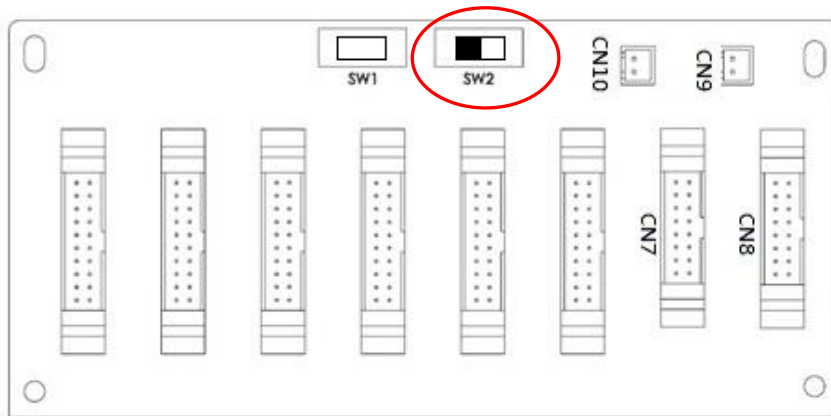

Figure 9-3 Rack 2 SW2 set to the left side
1. The parallel board(s) of the Rack 2, the SW2 must be set to the left side, please refer to the figure 9-3